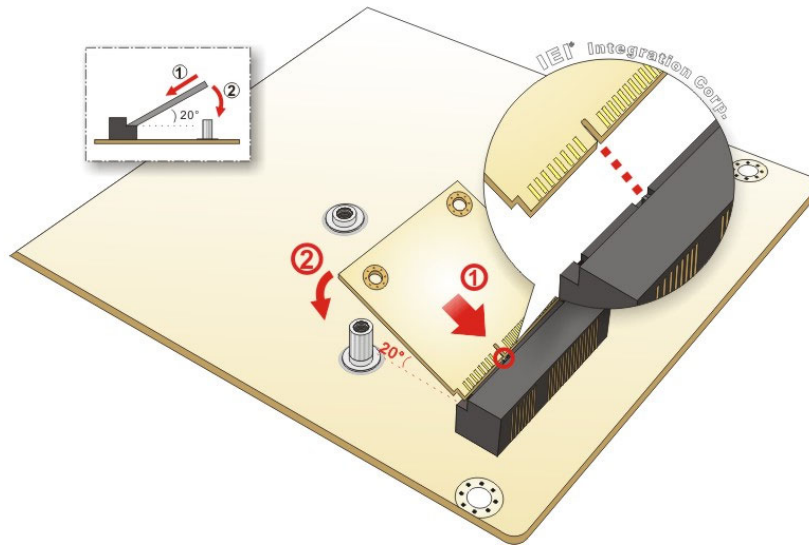

Figure 4-12: Inserting the Half-size PCIe Mini Card into the Slot at an Angle
Step 5: Insert into the socket at an angle. Line up the notch on the card with the notch on the slot. Slide the PCIe Mini card into the slot at an angle of about 20° (Figure 4-12).